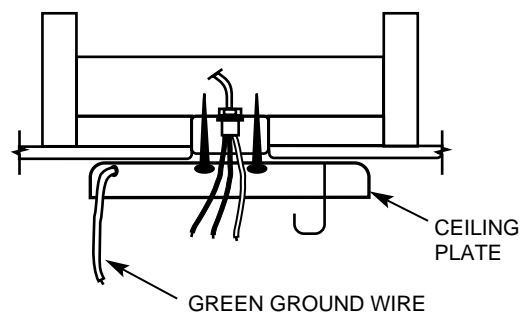

FIGURE 7
A. Connect electrical supply leads to the leads from motor, using approved connectors. Connect black electrical supply lead to the black motor lead and the black with white stripe motor lead (see Note). Connect the white electrical supply lead to the white motor lead. Connect the ground wire to the green leads from the motor and ceiling plate. See Figure 7.